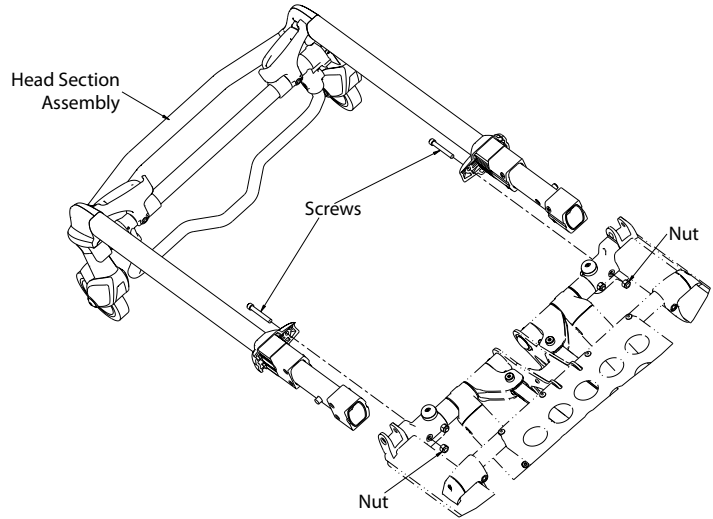

Figure 58
2. Using a 7/16" combination wrench and a 3/16" Allen wrench, remove the two screws that secure the cap bearings to the base litter interface bracket (one on each side) (see Figure 58).